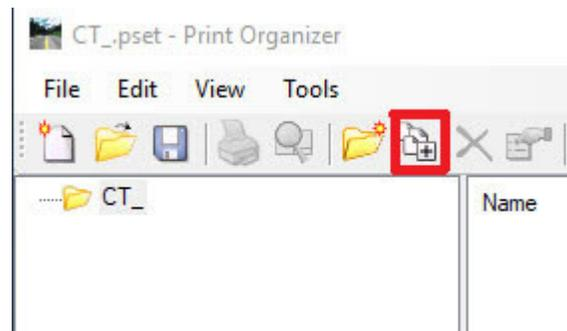

Figure 31 “Print Organizer Dialog ADD FILES”
5. Place the Legend Box on the plan sheet and fill out all the information for the Condemnation Map. (Figure 31 below)
Step 8. Select **ADD FILES TO SET** (figure 31 below)